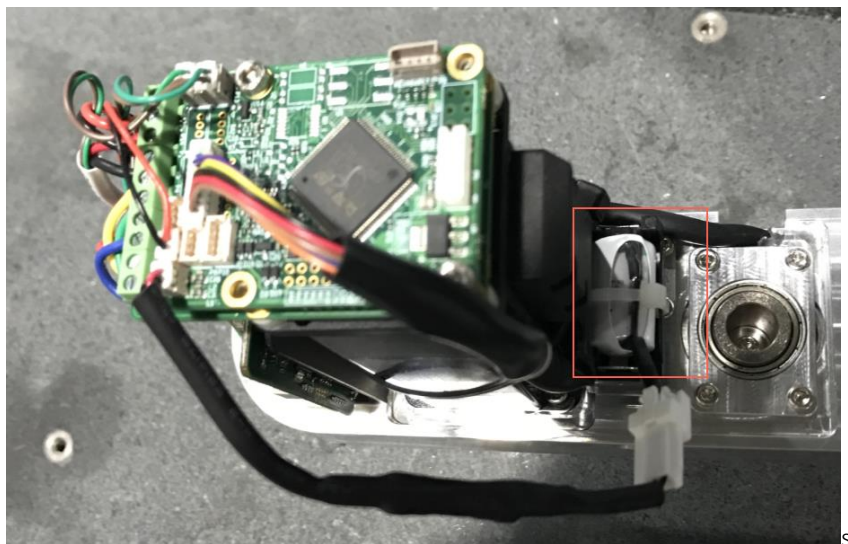

Figure 7.18 Put battery into the battery holder
- Step 8** Put the standby battery into the battery holder as shown in Figure 7.18 and cut off the redundant zip-tie.